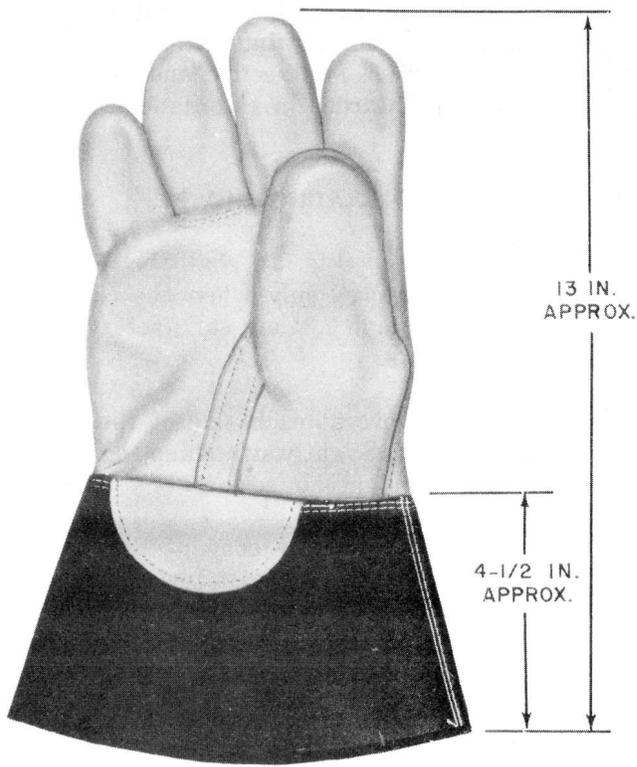

Fig. 2—Leather Protector Glove
4.01 The B (MD) or C (MD) leather protector gloves (Fig. 2) shall always be worn over B, C, or E insulating gloves to prevent mechanical damage to the insulating gloves. The D leather protector gloves **must** be used with F insulating